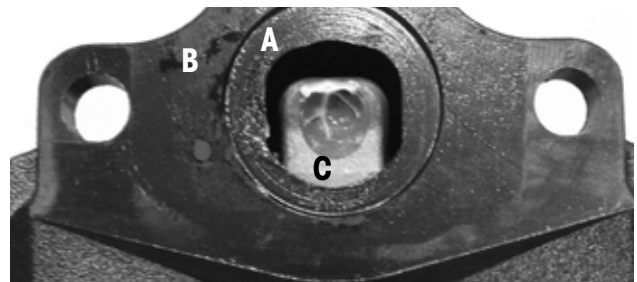

Figure 47: Caliper brake chamber mounting surfaces
2. **Clean** the brake caliper boot surface (Figure 47, A on page 23) and flange area (Figure 47, B on page 23).